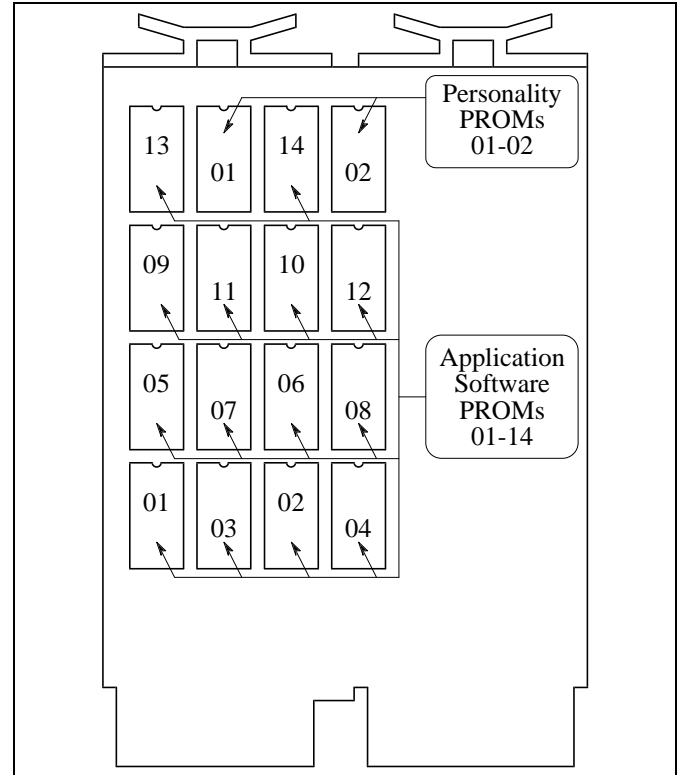

Figure 6 - Location of PROMs on PROM Card
The Application Software consists of fourteen (14) PROMs and the Personality consists of two (2) PROMs. The location of each PROM on the MRV11-D PROM Card is shown in Figure 6. The following rules apply when replacing Site Controller PROMs: